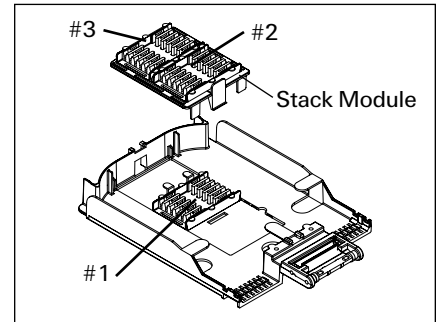

Figure 4
- Modules should be filled in the order specified in Figure 4.